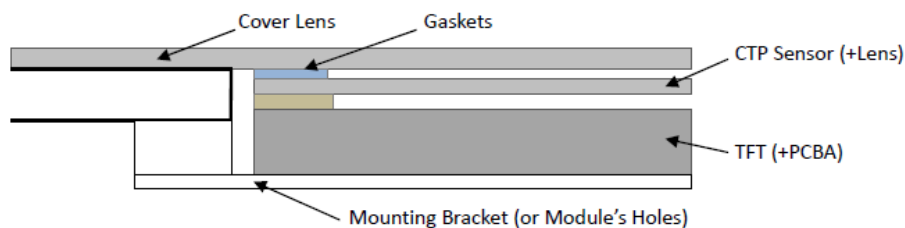

Figure 3
8.3 Additional Cover Lens Mounting (Figure 3)
8.3 覆加盖板（附图3）